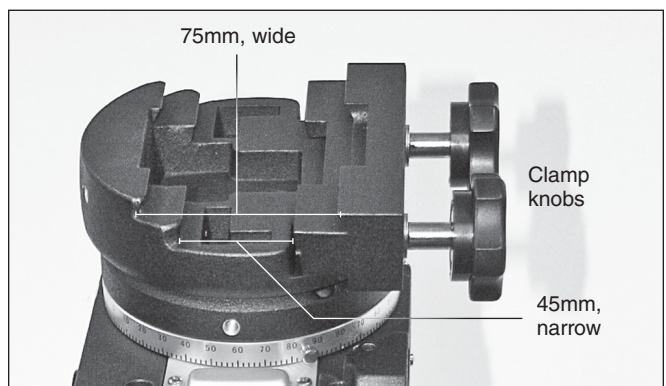

Figure 10. The primary dual-width saddle accommodates narrow or wide dovetail plates.
2. Loosen the two clamp knobs on the primary dual-width saddle plate (**Figure 10**) until the width of one of the